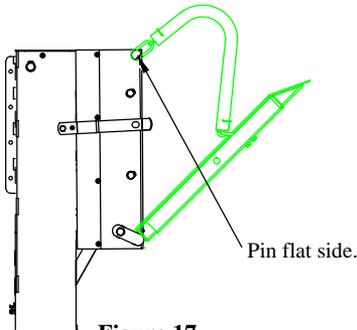

Figure 17
1. **Position** the platform and platform chain as shown in figure 17.